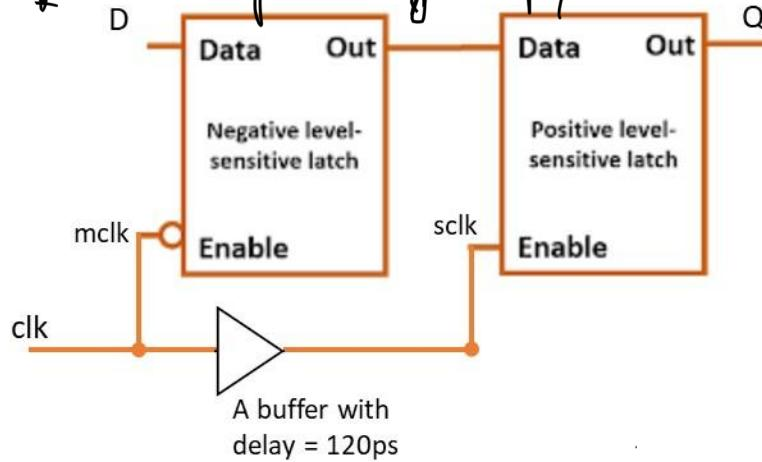

Fig. 11
b. Consider the flip-flop constructed in Fig. 11.